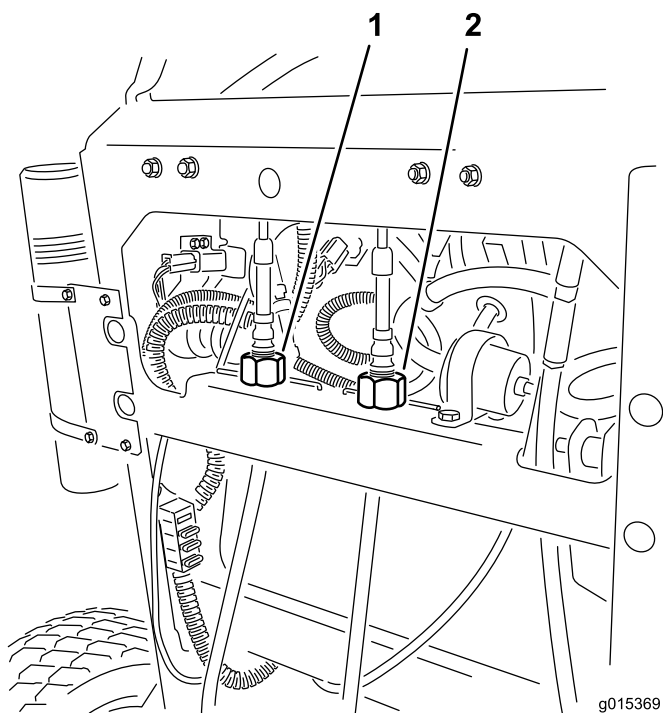

Figure 54
4. Rotate the right cable adjustment to position the right motion control in the center of the control panel neutral lock slot (Figure 54).